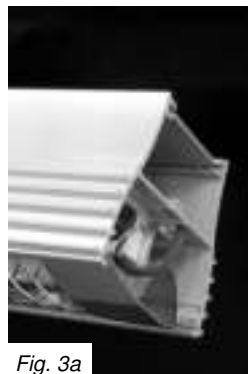
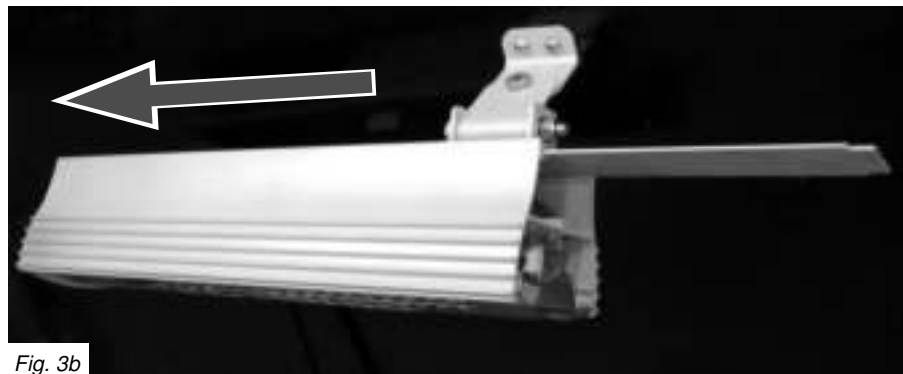

Fig. 3a
Fig. 3b
3. The heater will now be free to slide off the back plate (Fig. 3a). Gently slide the heater body away from the open end as shown in Fig. 3b ensuring not to drop it as it comes from its mounting.